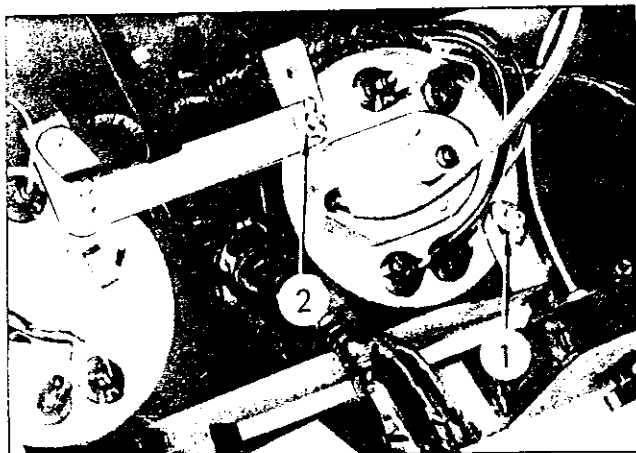

Fig. BE-14 Removing speedometer
Loosen the wing nuts on the meter brackets [① and ② in Figure BE-14] on the upper and lower sides of the reverse side of the speedometer, and withdraw the speedometer from the instrument panel.